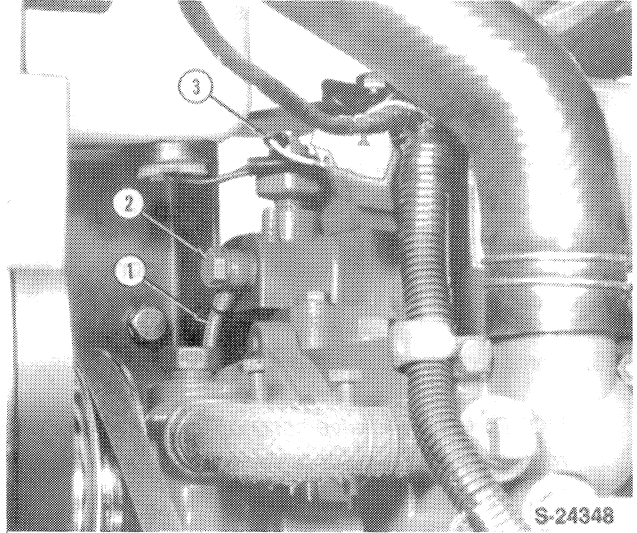

Figure 17
1. Remove the oil pressure sensor switch (3), Figure 17.
2. Remove the external oil tube banjo bolt (2), Figure 17, from the front end of the valve rocker shaft.